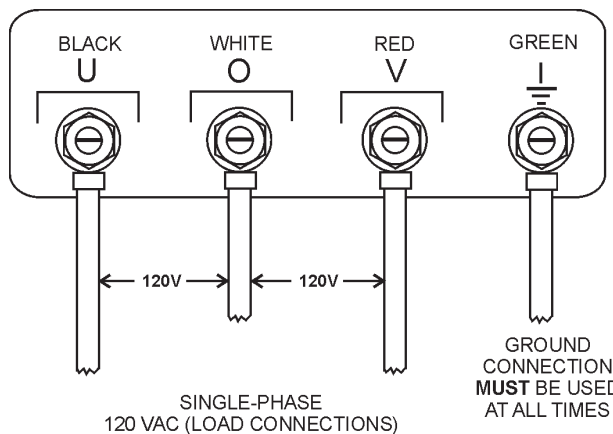

Figure 19. Output Terminal Lugs 120 Single Phase Connections
1. Connect the load wires to the **Output Terminal Lugs** as shown in (Figure 19)